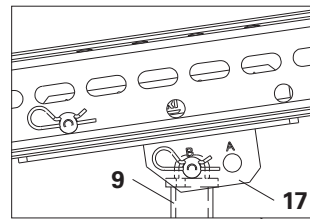
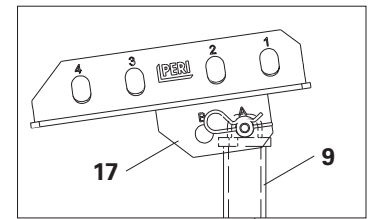
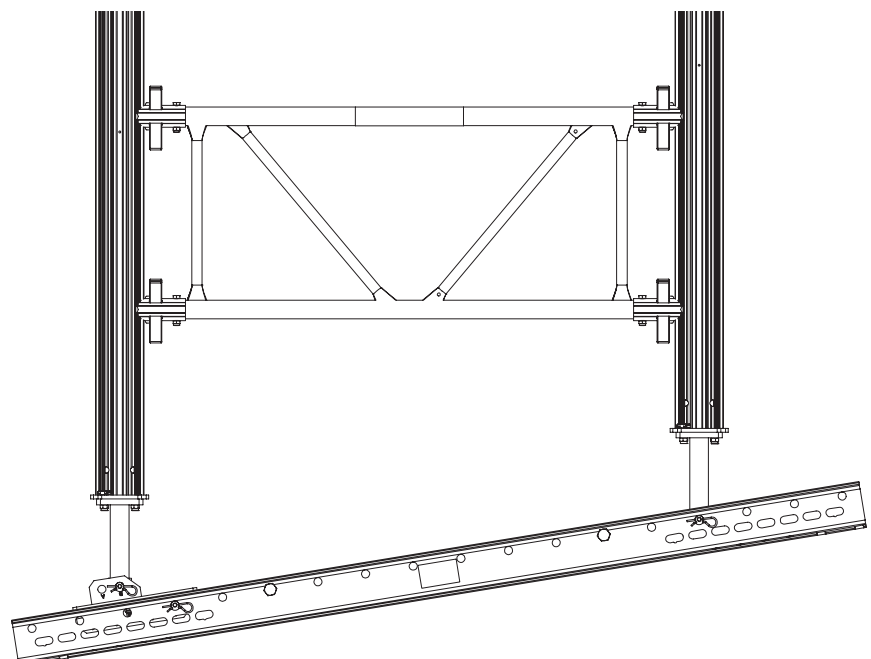

Fig. A2.12a
Fig. A2.12b
Fig. A2.13
- The Compression Brace Head MP/SRU (9) can also be used for erecting towers on inclined surfaces. (Fig. A2.13)
- The Compression Brace Head MP/SRU (9) can usually be bolted onto the Main Beam SRU directly.
- The Connector MP/SRU (17) serves as a filler element between the Compression Brace Head MP/SRU (9) and the inclined main beams irrespective of the prop grid.
- Any desired inclination and frame size can be achieved by plugging holes "A" or "B" in the Compression Brace Head MP/SRU (9) and holes 1, 2, 3 or 4 in the main beam for Connector MP/SRU (17). (Fig. A2.12a + Fig. A2.12b)